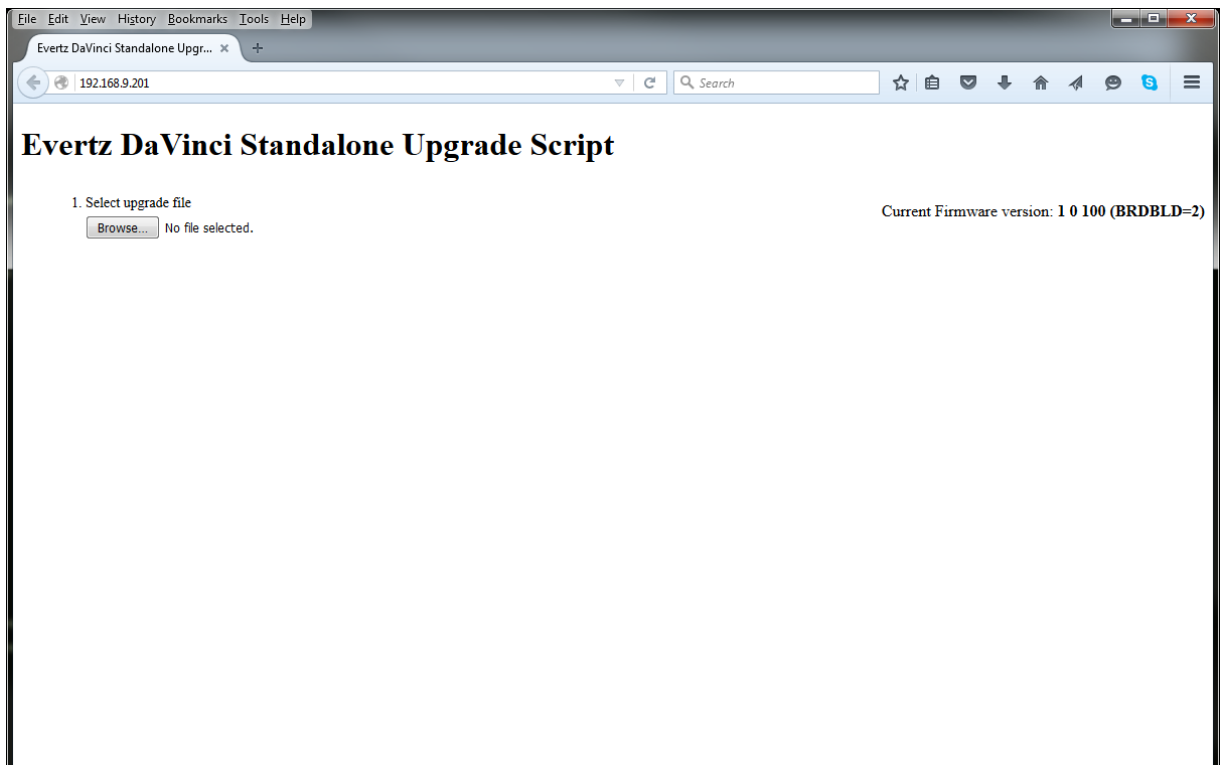

Figure 6-1: 7700R Upgrade Screen for Browse
1. Using a standard web browser, type the IP address of the 7700R in the address bar. This should direct you to the web page similar to Figure 6-1 below. This screen will also show the current firmware version. In the case of this example, the version is 1.0 build 100.